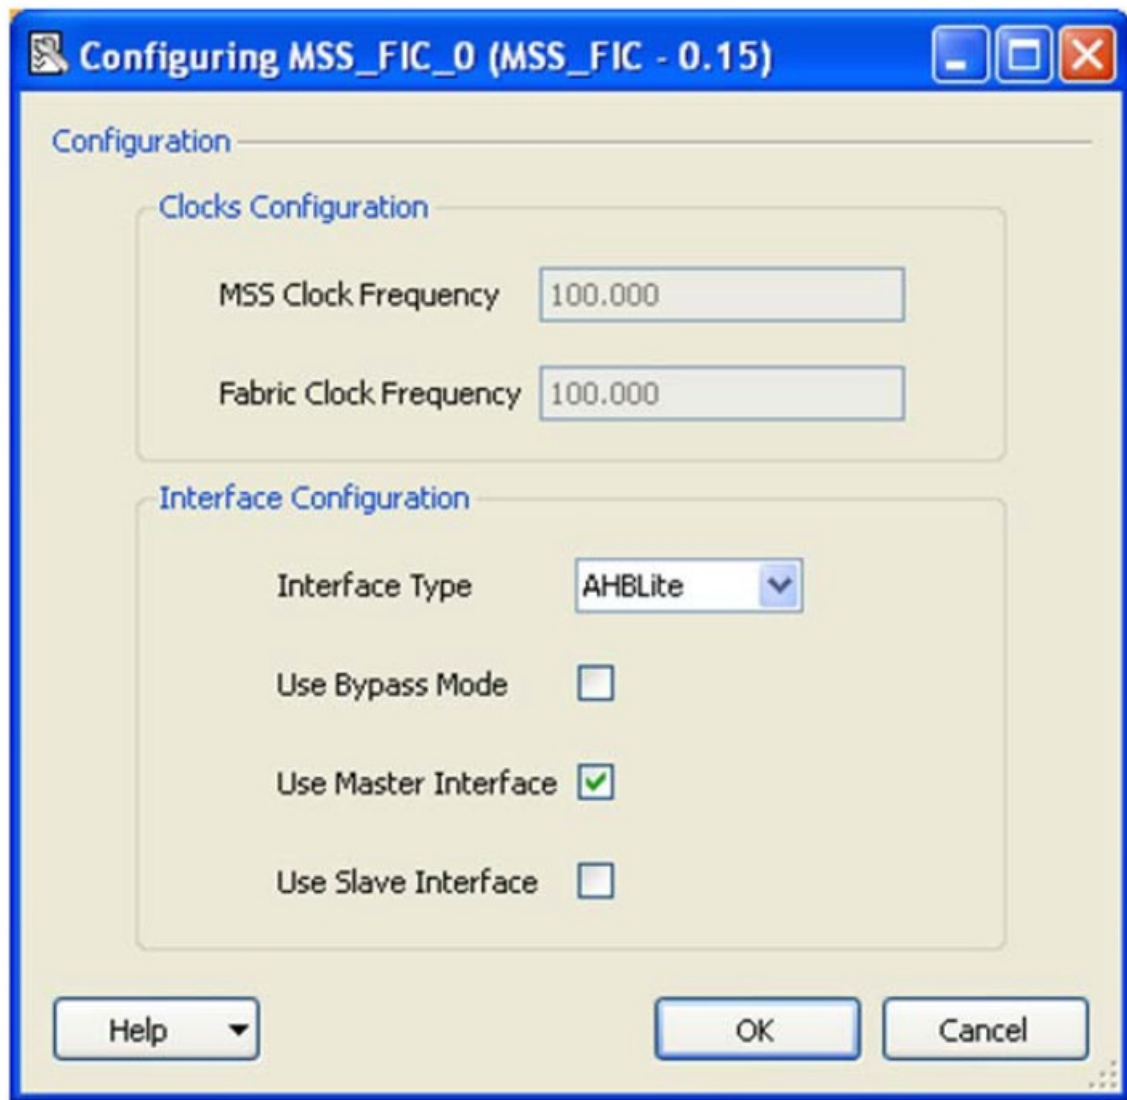

Figure 1-2 · AHBLite Interface Selected
Select the AHBLite Interface Type in the MSS Fabric Interface Configurator as shown in Figure 1-2.
- Enable the AHBLite Master Bus Interface (BIF) as shown in Figure 1-2.